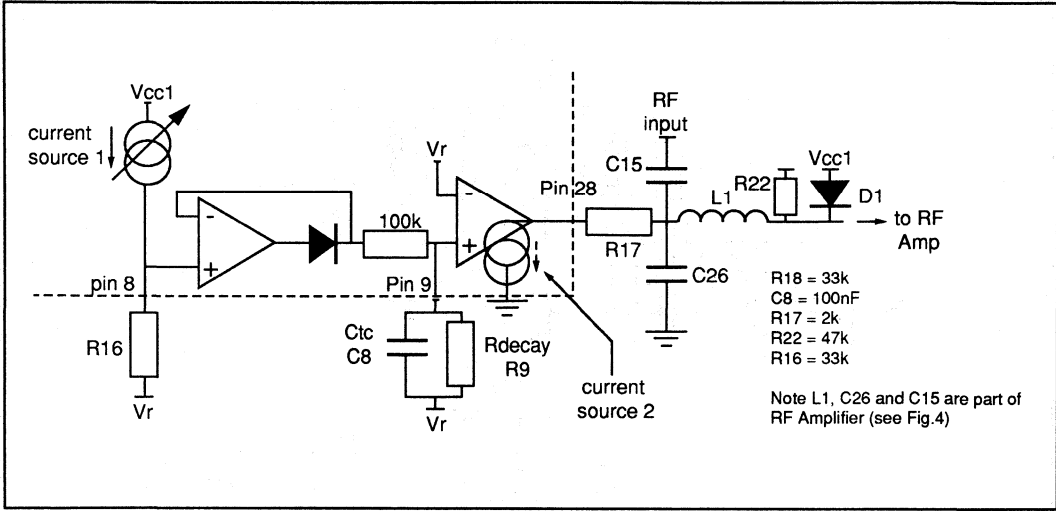

Fig.6 AGC Schematic
- R17 forms a part of the audio AGC circuit (see figure 6) and is determined by the voltage drop required to make the PIN diode D1, conduct to give the RF attenuation required. R17 should be sufficiently large to ensure the voltage at pin 28 does not drop below 200mV. The maximum AGC current expected is 85μA. For the characteristics of the audio AGC current source see